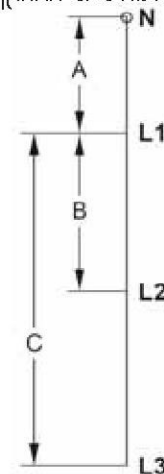

fig. 31
- **fig. 31:** The first laser lamp L1 for the seam start must be positioned at a distance A = 135 mm from the needles N.